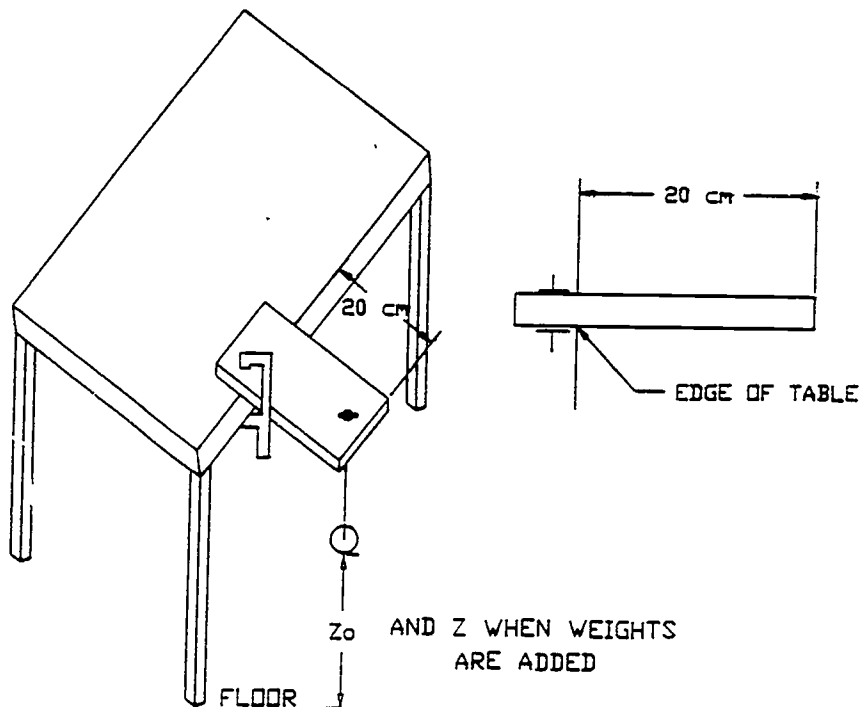

Figure 6
1. Secure a strip of material to the edge of a table using the C-clamp and wood strip, allowing 20 cm of the strip to hang over the edge of the table. See Figure 6 below. **[CAUTION!!!** Be careful not to put your feet under the test sample or weight hanger at any time. If the C-clamp slips, there could be some serious injuries.]